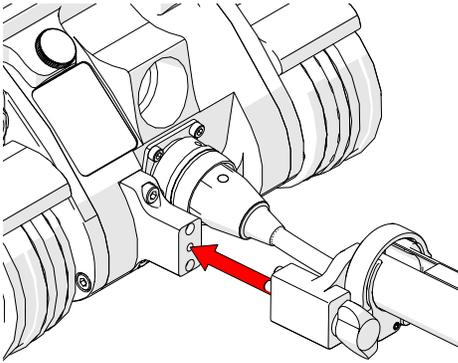

Fig. 198 - Align with umbilical
1. Align the cable management clamp with the appropriate mounting position on the user umbilical breakout (Fig. 198).